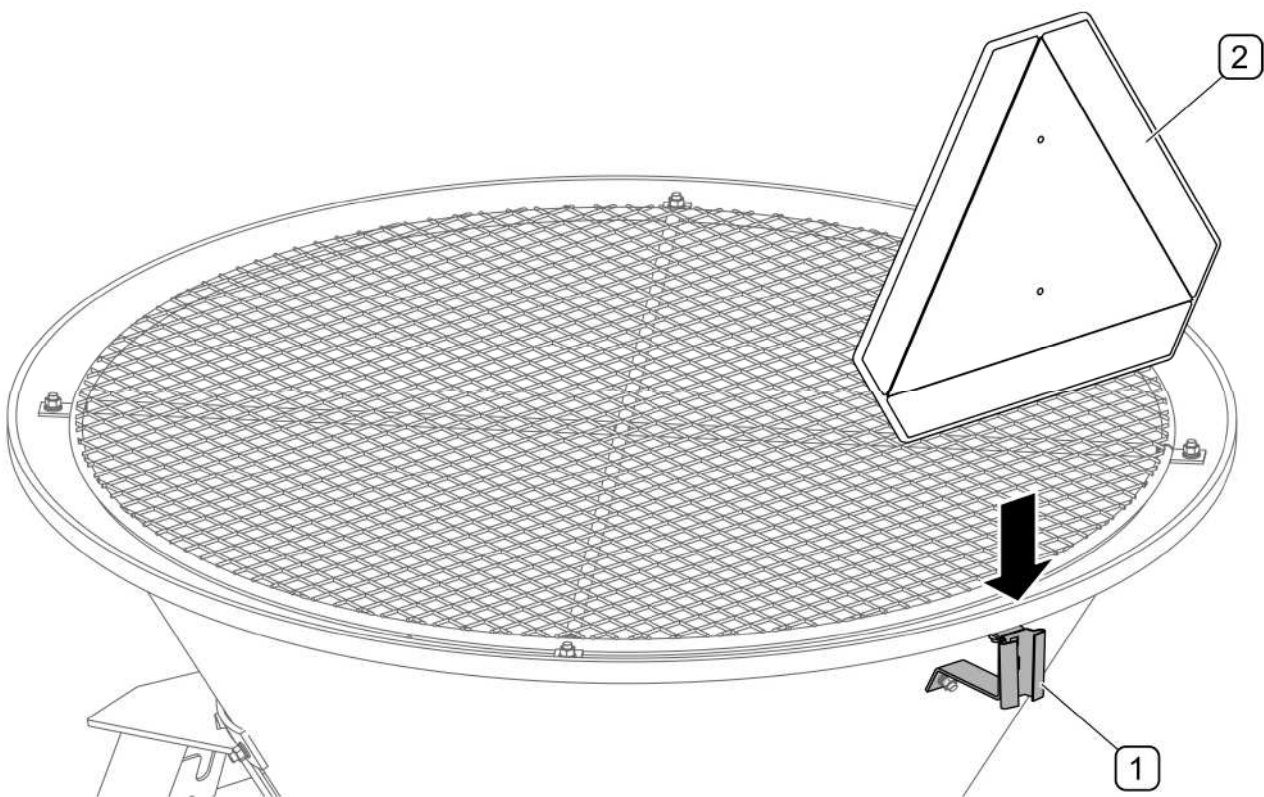

FIG. 4.8 **Warning sign bracket**
- While driving on public roads, the machine should be marked with slow-moving vehicle warning sign (2) placed on the rear of the machine (FIG. 4.8)